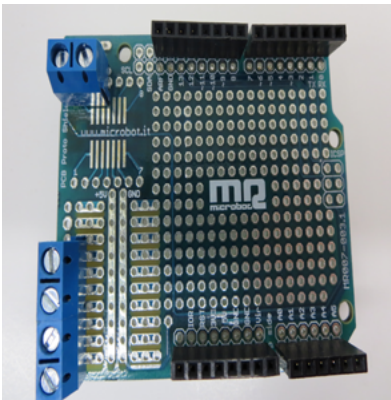

Fig.9
- Solder the 4 position Motor Connection terminal block to the prototype board as shown in Fig. 9, 10.
2. Solder the remaining two position terminal block for Motor Power as shown in Fig. 9, 10.
3. Solder the six pin M/F header to the outside strip of A0-A6 as shown in Fig. 9, 10.
Solder the three 8 pin M/F headers to the remaining outside strips as shown in Fig. 9, 10.